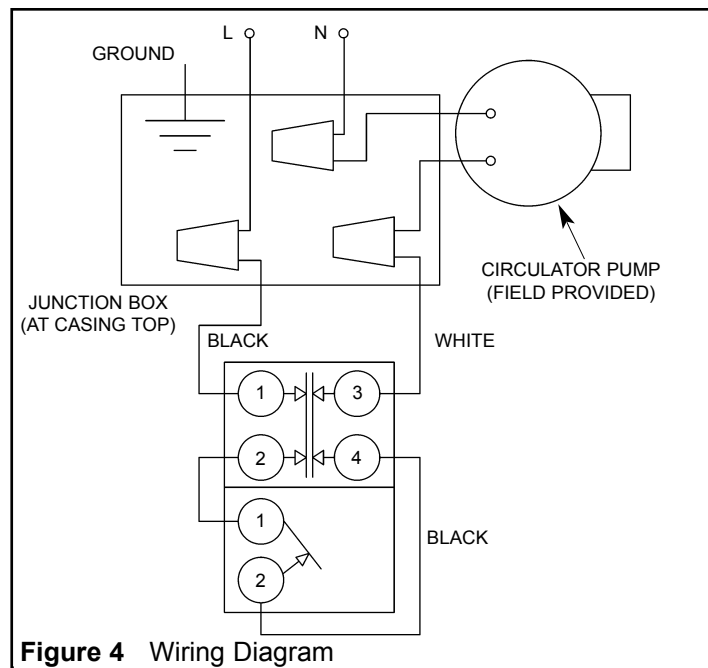

Figure 4 Wiring Diagram
2. Connect the circulator pump in series with the thermostat as shown in Figure 4.